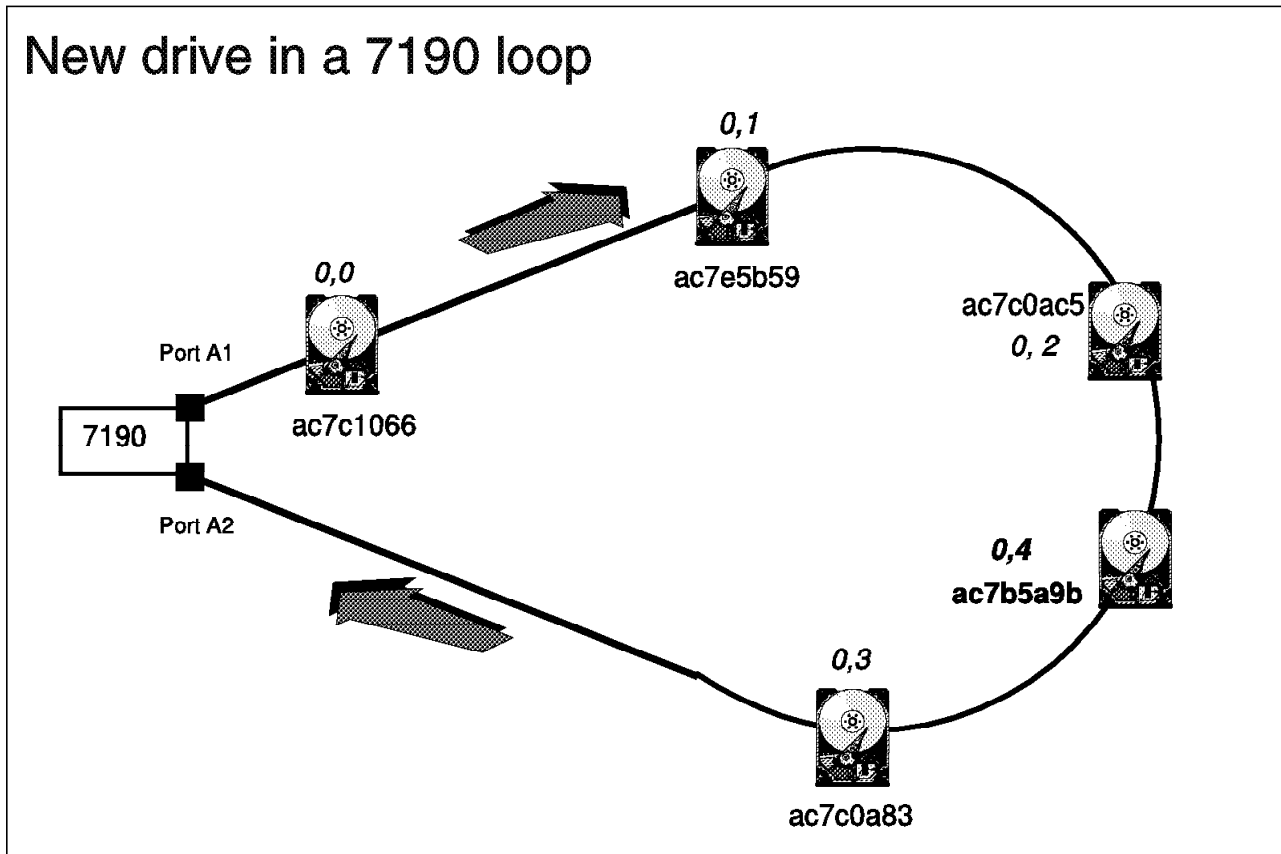

Figure 101. The New Configuration
4. Your altered configuration should look similar to that in Figure 101.
Compare the output to Figure 101.